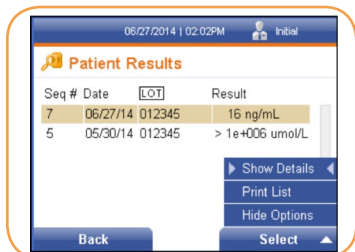

FIGURE 74
- From the *Patient Results* screen, press the right soft key to display the *Options* menu (Figure 74).